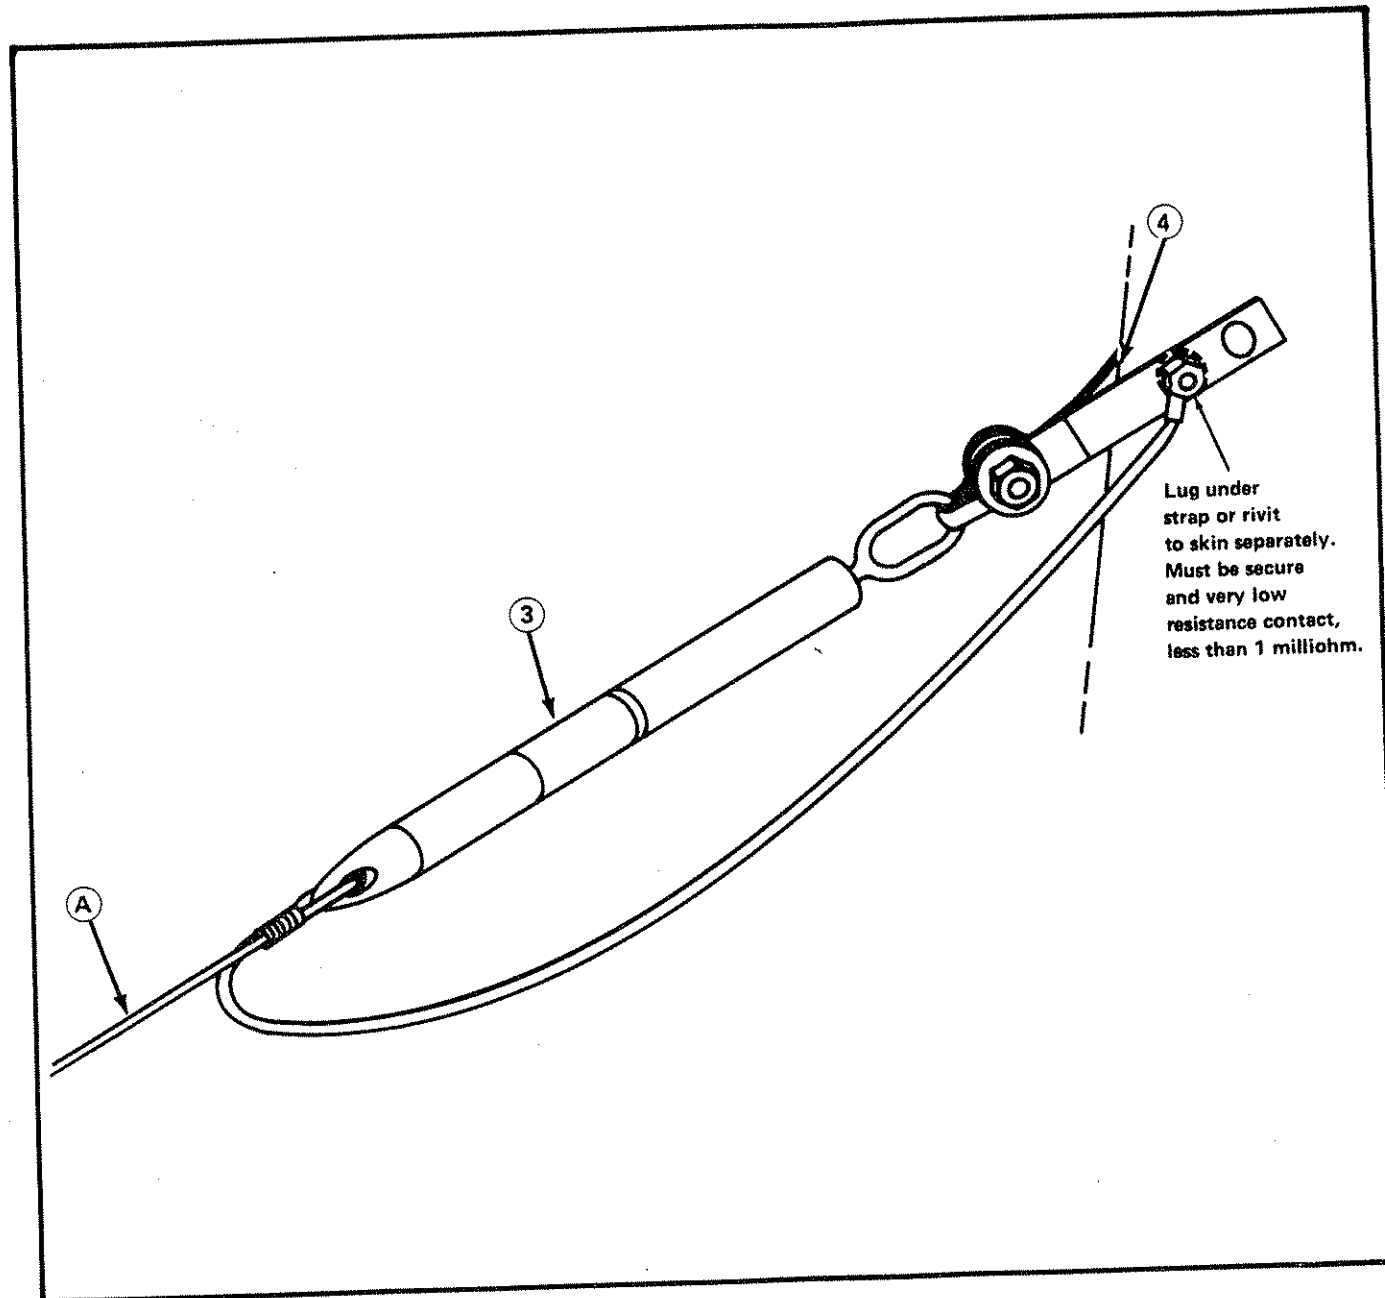

Figure 2.7 Antenna Grounding
For straight grounded antennas (see figure 2.7), the antenna (A) from feed through insulator (Item 1, Table 2.1) is fed through the insulated tension unit (Item 3) and clamped or tied with nylon cord (as shown) to proper length. Ground antenna with ground lug to Item 4 of Table 2.1 or aircraft skin.